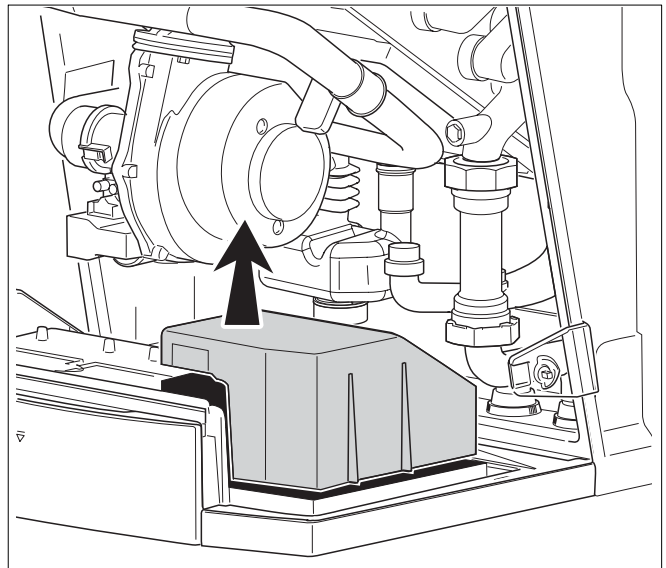

Fig. 94 Dismantling the cover of the external connection board
- Dismantle the cover of the external connection board (see fig. 94).